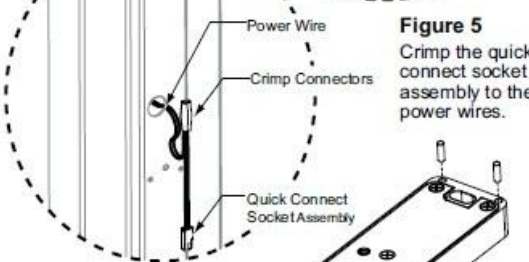

Figure 5
11. Using the provided sealed crimp connectors, terminate the quick connect socket assembly to the power wires. See Figure 5 (NOTE: The 4800 is none polarized)